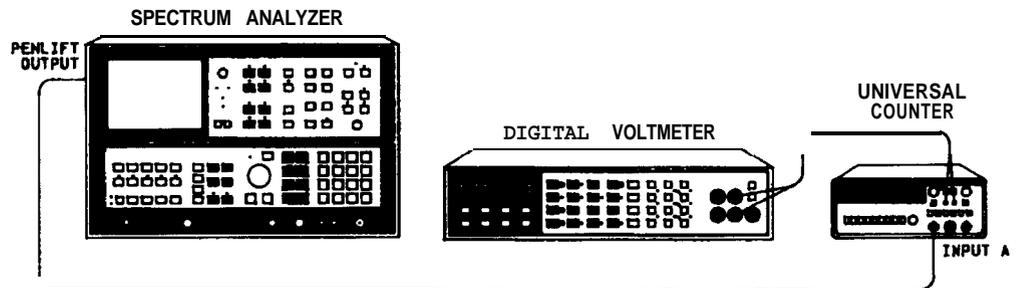

Figure 2-4. Sweep Time Accuracy Test Setup
1. Connect equipment as shown in Figure 2-4.